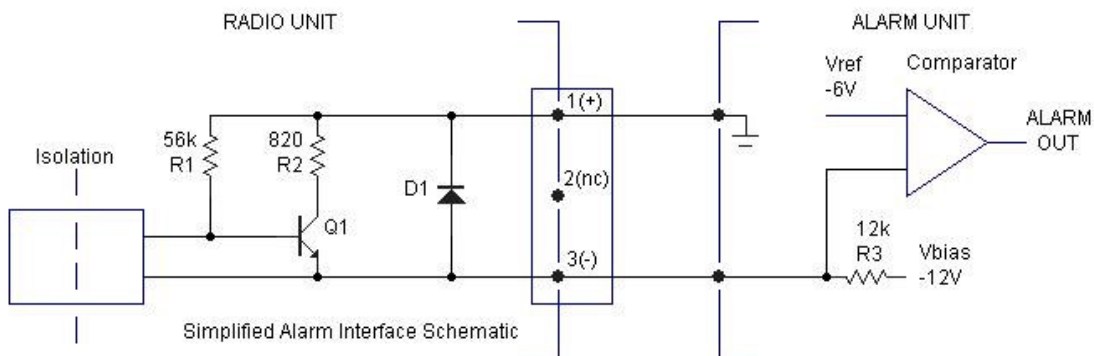

Figure 1 - Typical Interface Circuit Application
1.2 Interface Circuit (see Figure 1)